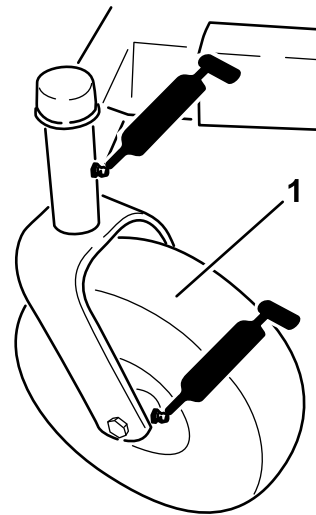
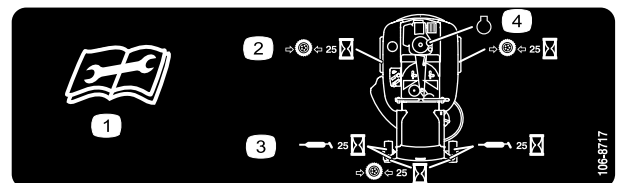

Figure 20
Figure 21
3. Clean the grease fittings (Figure 20 and Figure 21) with a rag. Make sure to scrape any paint off of the front of the fitting(s).
4. Connect a grease gun to each fitting (Figure 20 and Figure 21). Pump grease into the fittings until grease begins to ooze out of the bearings.